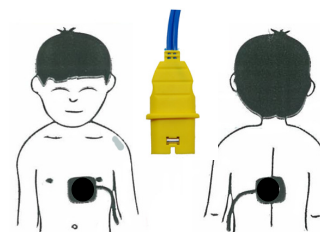

Fig.3.3 Application sites for children less than 25 kg
1. Clean and dry the application points for the electrodes, see Fig.3.3 Application sites for children less than 25 kg. Only clean the skin by vigorously rubbing it with a dry cloth.
2. Apply one electrode on the left of the right nipple as illustrated in Fig.3.3 Application sites for children less than 25 kg
3. Apply the second electrode on the back on the same level as the chest electrode as illustrated in Fig.3.3 Application sites for children less than 25 kg.